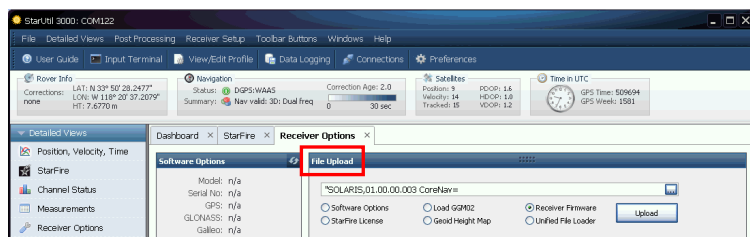

Figure 19: File Upload Window
38. Locate the *File Upload* window on the *Receiver Options* tab (see Figure 19).